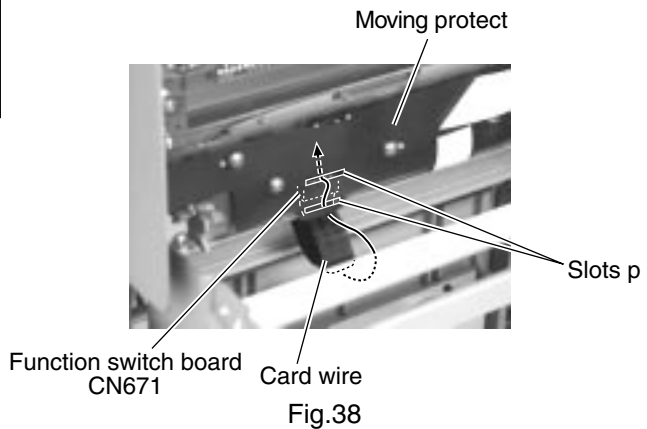

Fig.38
- Bend the card wire extending from connector CN671 as shown in Fig.38 and 39, and pass it through the two slots **p** of the moving protect to fix.